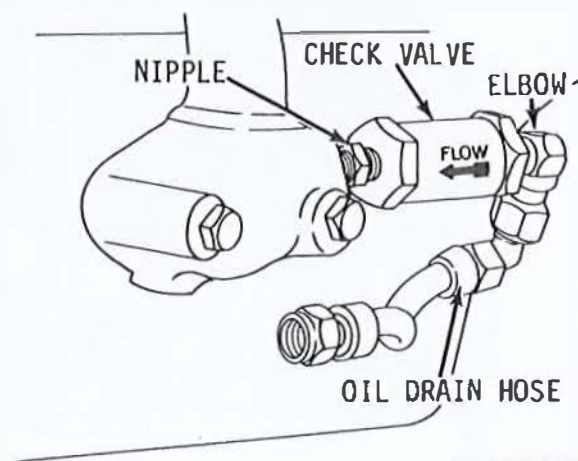

Figure 3-4. Removing front and rear drain tubes and check valve.
b. Remove generator rear oil drain hose (fig. 3-4), elbow, check valve and nipple. Separate parts. ■